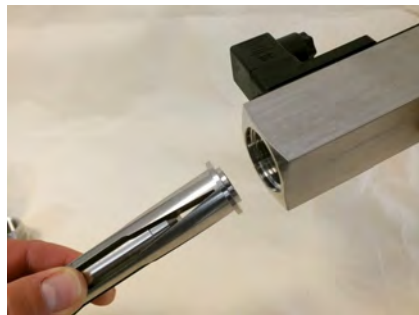

Fig. 46: Remove inner parts
9. ➔ Carefully turn the device body 180° and remove the inner parts (slot nozzle, float and inlet centering disc). (Fig. 46)